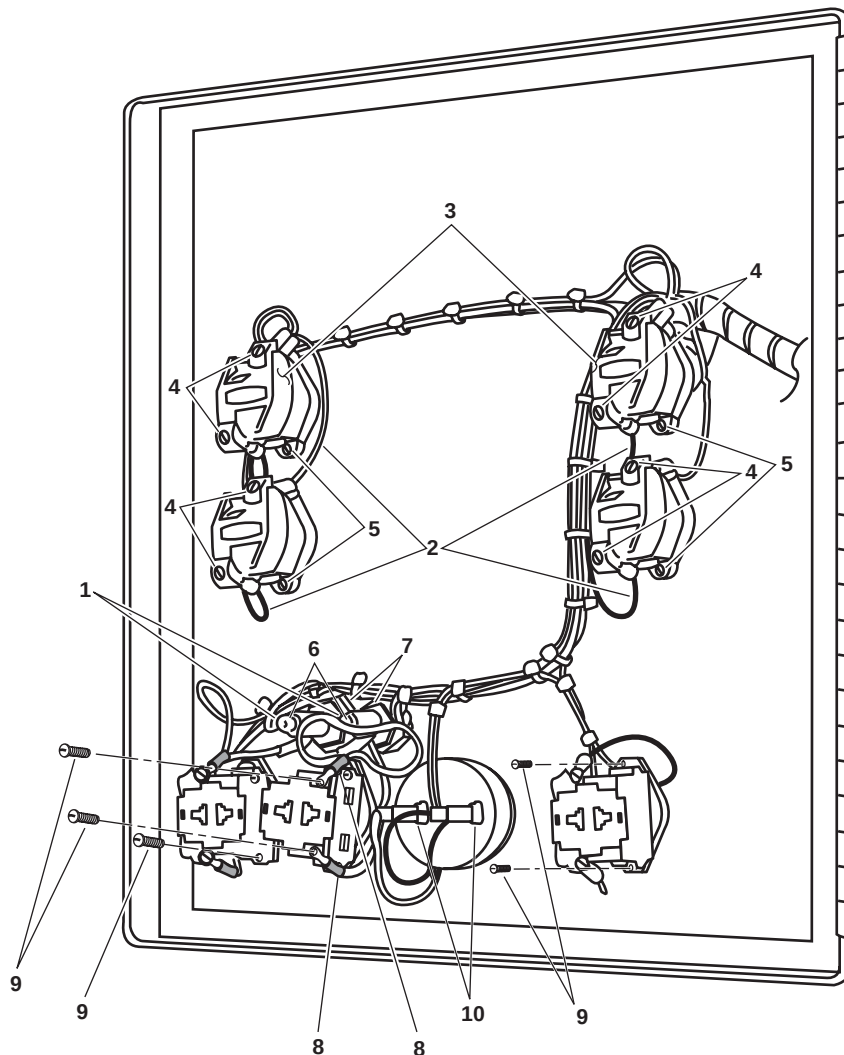

Figure 2. Alarm Panel Components (Internal View)
4. Use a multimeter to check for voltage at the fuse holders (figure 2, item 1). If voltage is present, ensure that the proper circuit breaker is set to OFF, locked out, and tagged out (FM 55-502). If no voltage is present, continue with the procedure.
5. Label and remove the wiring (figure 2, item 2) from the lamp assembly (figure 2, item 3) at the terminals (figure 2, item 4).
6. Remove the retaining screws (figure 2, item 5) that secure the lamp assembly (figure 2, item 3). Remove the lamp assembly from the alarm panel.
1. Install the lamp assembly (figure 2, item 3) in the alarm panel, securing it with the retaining screws (figure 2, item 5).
2. Install the wiring (figure 2, item 2) using the labels from step 5 of Removal as a guide. Remove the labels.
3. Use a multimeter to check for voltage at the fuse holders (figure 2, item 1). If voltage is present, ensure that the proper circuit breaker is set to OFF, locked out, and tagged out (FM 55-502). If no voltage is present, continue with the procedure.
4. Label and remove the wiring from the terminals of the fuse holder assembly (figure 2, item 6) to be removed.
5. Remove the retaining nut (figure 2, item 7) that secures the fuse holder assembly (figure 2, item 6), and remove it from the alarm panel.
1. Install the fuse holder assembly (figure 2, item 6) in the alarm panel, and secure it with the retaining nut (figure 2, item 7).
2. Install the wiring to the fuse holder assembly (figure 2, item 6) using the labels from step 4 of Removal as a guide. Remove the labels.
4. Label and remove the wiring from the terminals (figure 2, item 8) of the alarm panel switch/indicator assembly.
5. Remove the retaining screws (figure 2, item 9). Remove the alarm panel switch/indicator assembly from the alarm panel.
1. Install the alarm panel switch/indicator assembly in the alarm panel, and secure it with the retaining screws (figure 2, item 9).